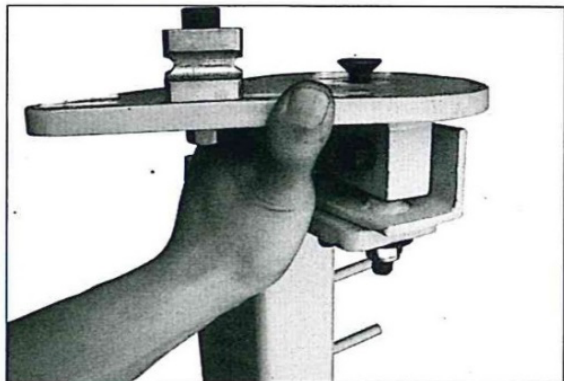

Figure 5-3
2. Now attach main bender plate to the pedestal adapter. Use the supplied socket head bolts and lock nuts to secure the bender to the pedestal as in fig 5-3.